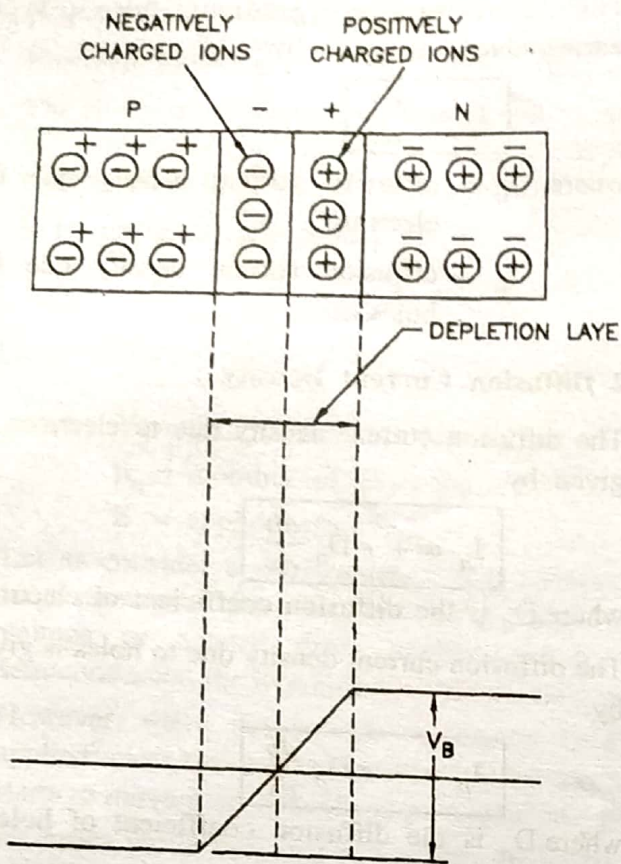

FIG. 2.22 : FORMATION OF PN-JUNCTION
- Hence as shown in Fig. 2.22, they form parallel rows or plates of opposite charges facing each other.
- Thus on both sides of the junction a layer is formed which is depleted of free electrons and holes. Hence it is called depletion layer. It contains only immobile, positive and negative ions as shown in Fig. 2.22.